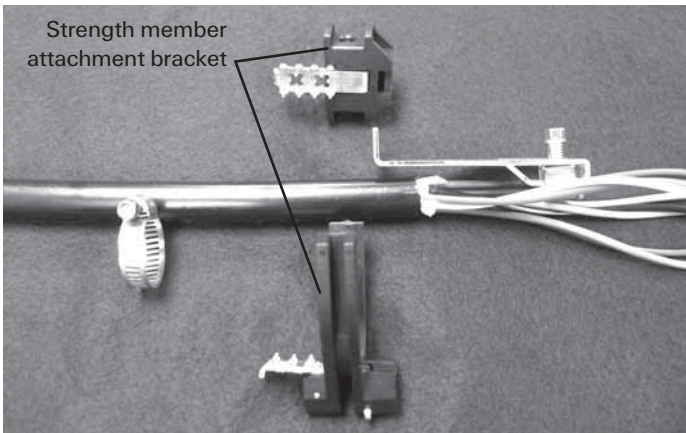

Figure 5
2. Place cable assembly into cable attachment bracket as shown in Figures 5 and 6.